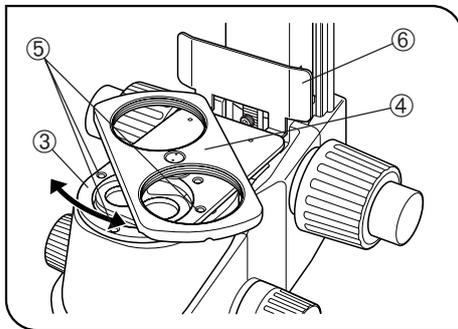

Fig. 28
4. Place the revolving nosepiece mount ③ (with its objective mounts ④ facing upward) where the objective mount has been by aligning the screw holes.
Using the Allen wrench (for M3 screws), clamp the revolver mount with the provided three clamping screws (M3, 6 mm long) ⑤. (Fig. 28)
★ **As the screw holes may be hidden behind the objective mounts ④, clamp the nosepiece mount while rotating it. (Fig. 28)**
6. Attach two objectives onto their respective objective mounts ④ by screwing. (Fig. 28)